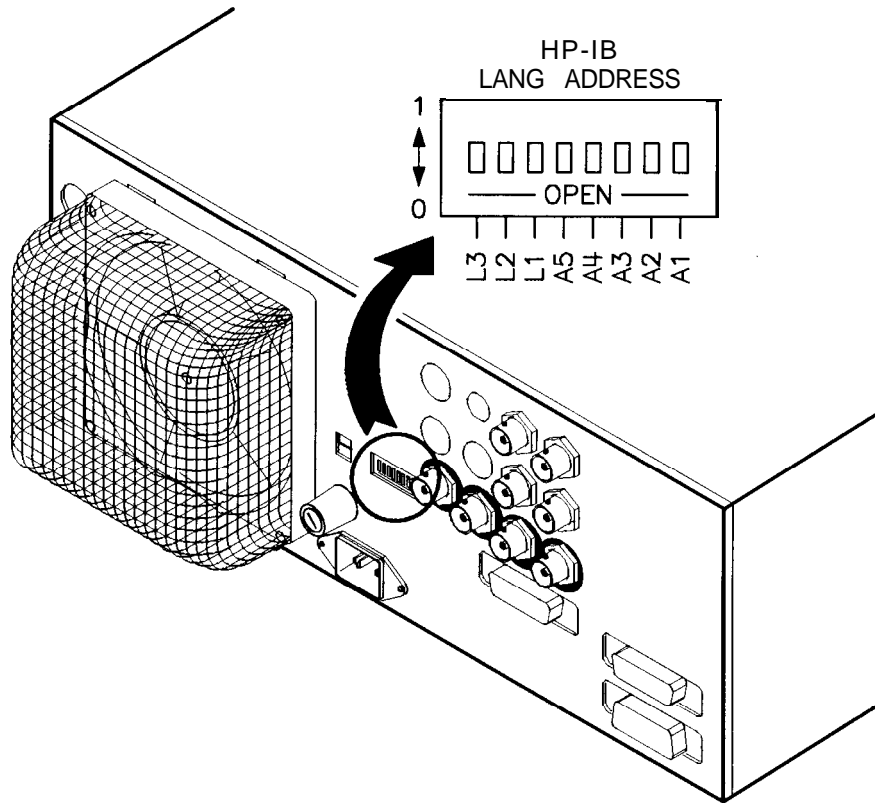

Figure 3-2. Rear Panel HP-IB Switch
To set a programming language from the front panel, the instrument language on the rear panel HP-IB switch (L1, L2, and L3 shown in Figure 3-2) **must** be set to 7 (all 1s).
If the swept signal generator displays Rear panel HP-IB language must be 7 (111) in order to change current language (=XXX), the address on the rear panel HP-IB switch (Figure 3-2) is set to something other than 7 (all 1s).
If your swept signal generator does not have a front panel, set the rear panel HP-IB switch (Figure 3-2) for the language you want. (See Table 3-2 for language addresses.)
To set an HP-IB address from the front panel, the instrument address on the rear panel HP-IB switch (Figure 3-2) **must** be set to 31 (all 1s).
If the swept signal generator displays Rear panel HP-IB address must be 31 (11111) in order to change current address (=XX), the address on the rear panel HP-IB switch (Figure 3-2) is set to something other than 31 (all 1s).
To disable the address softkeys, set the instrument address on the rear panel HP-IB switch (Figure 3-2) to any address **other than 31** (all 1s).
If your swept signal generator does not have a front panel, set the address on the rear panel HP-IB switch (Figure 3-2) to the address you want (factory default is 19).